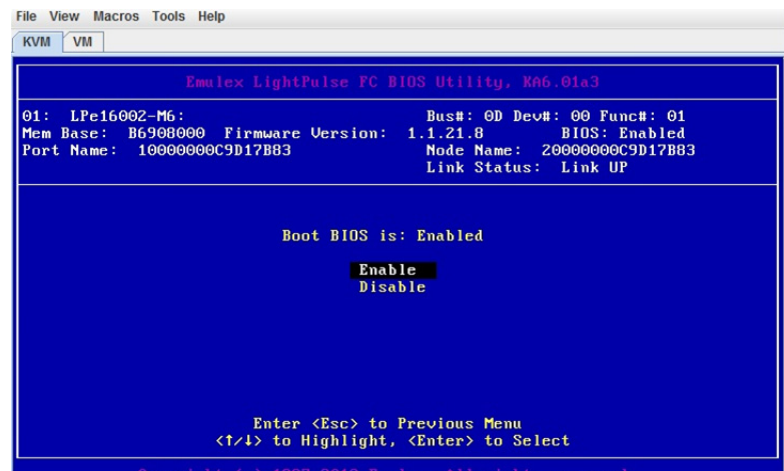

Figure 20 Enabling boot BIOS on the adapter port
3. To enable the boot BIOS on the adapter port, select **Enable**, as shown in Figure 20.